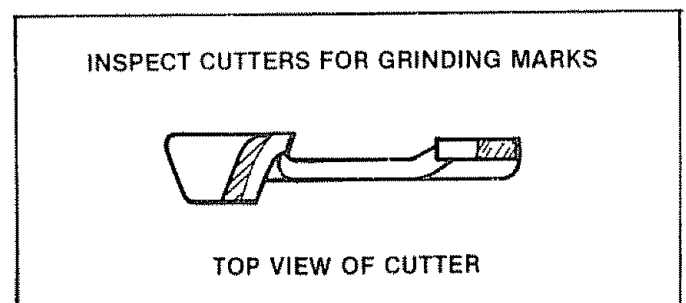

Figure 20
**NOTE:** A properly sharpened cutter will show grinding marks across its entire width. Figure 20 If cutters do not appear sharp or burrs are seen on the top front of the cutters, repeat Steps "7" and "8".